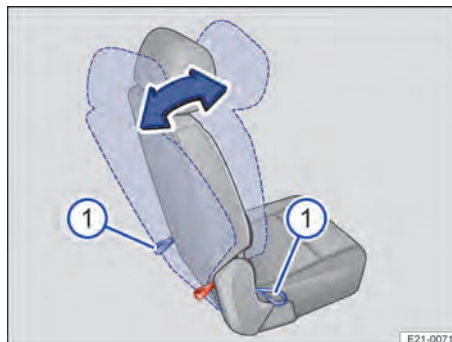

Fig. 63 Second row of seats: adjusting the angle of the backrest.
1. Apply pressure to the backrest with one hand and at the same time pull one of the corresponding loops behind the seat or at the side of the seat forwards → Fig. 63 ①.